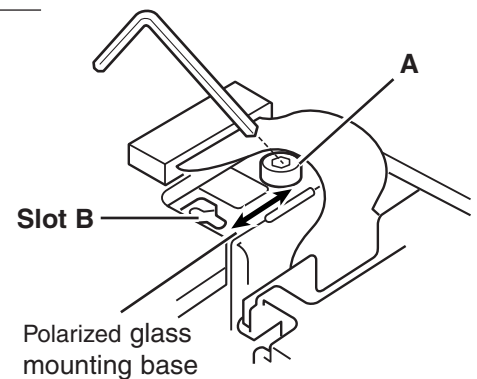

Fig.1-1
- 1 Loosen a screw **A** (Fig.1-1/1-2) on the polarized glass mounting base which you intend to adjust.
- 2 Turn the polarized glass mounting base as shown in Fig.1-1 to obtain the darkest brightness on the screen.